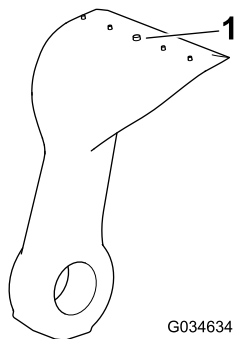

Figure 65
5. Inspect each blade for excessive wear using the wear line (Figure 65). When a blade is worn down to the wear line, replace the blade.